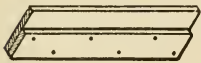

FIG. 128.—SLIDE ON WHICH TRAY RESTS.
11. **Making slides.** — The slides on which the trays rest should be as long as the chest is wide (inside measurements), and made of two pieces of ½" pine, one piece 6" wide and the other 3" wide, as in Fig. 128. The 3" strip is nailed to the 6" strip with one edge flush, and the whole is